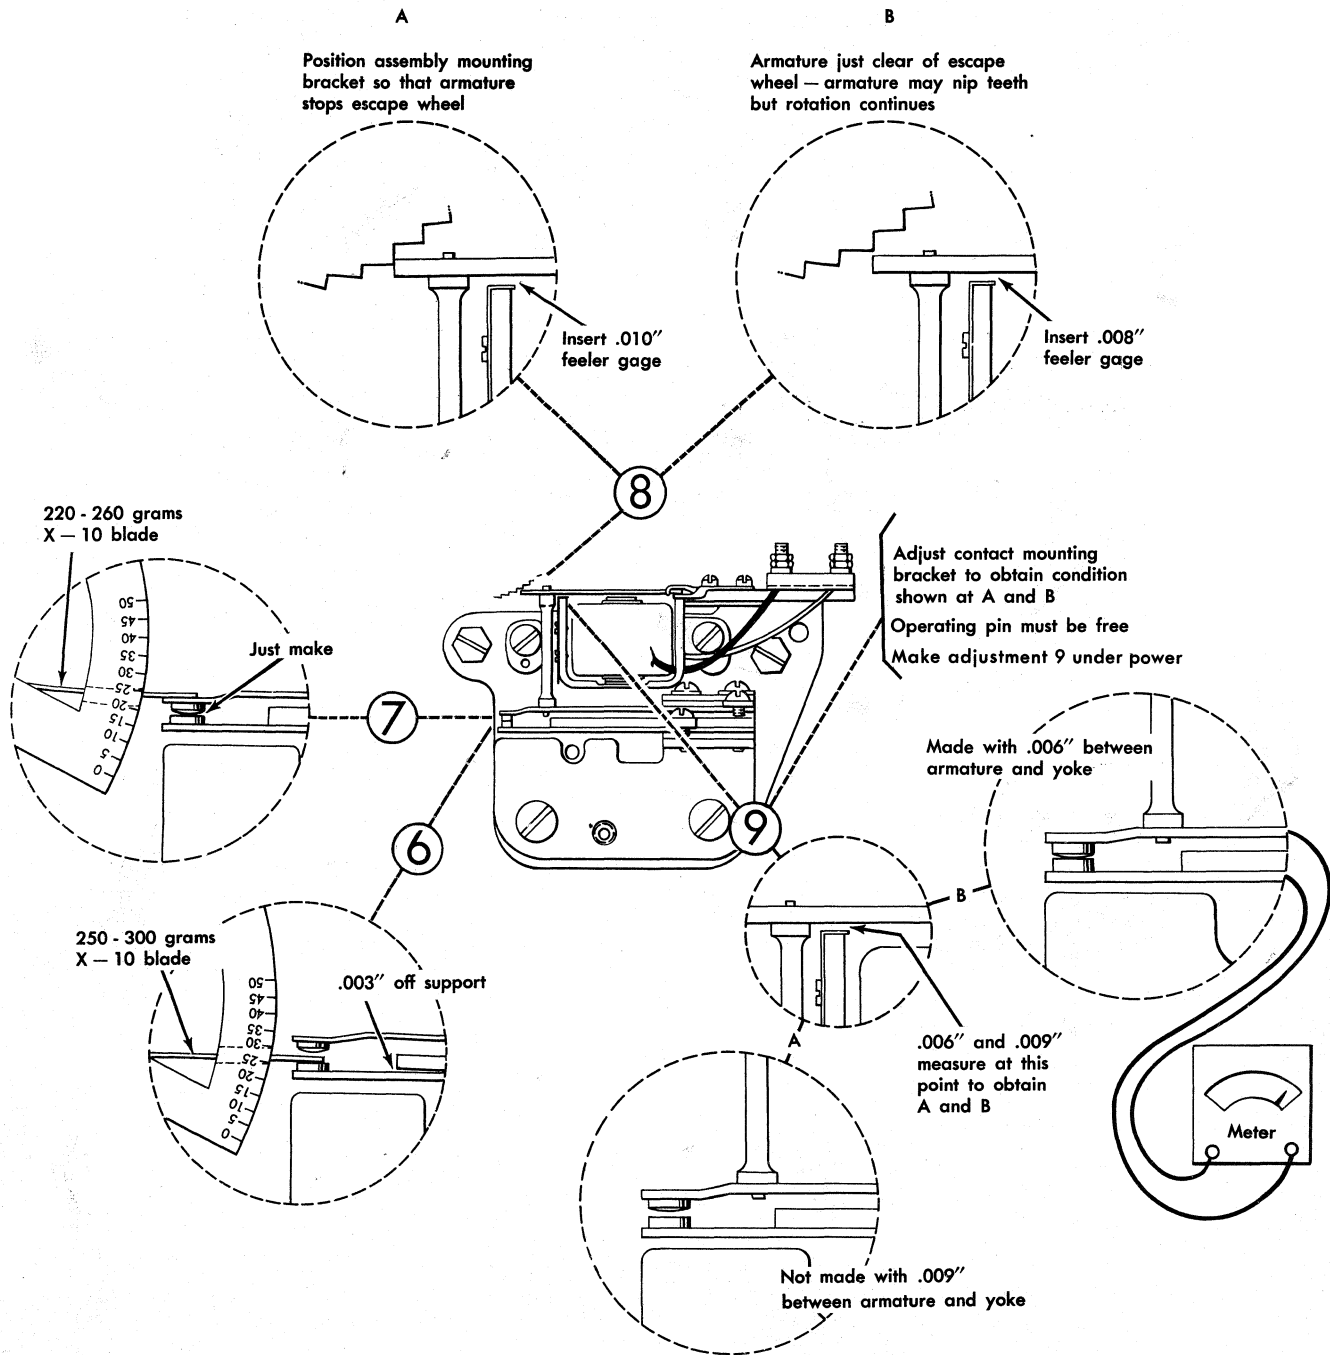

Figure 16. Escapement Adjustment
4. Make adjustments 8 and 9 in Figure 16.